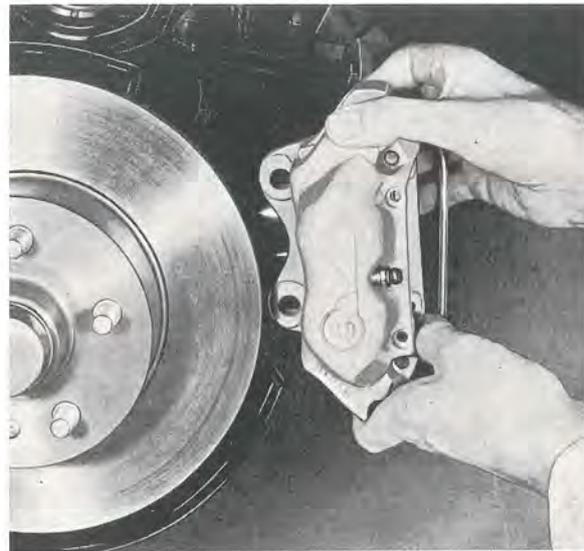

Fig. 5-21. Removing the front wheel brake caliper
4. Unscrew the attaching bolts (5 and 7, Fig. 5-20) and remove the brake caliper, see Fig. 5-21.